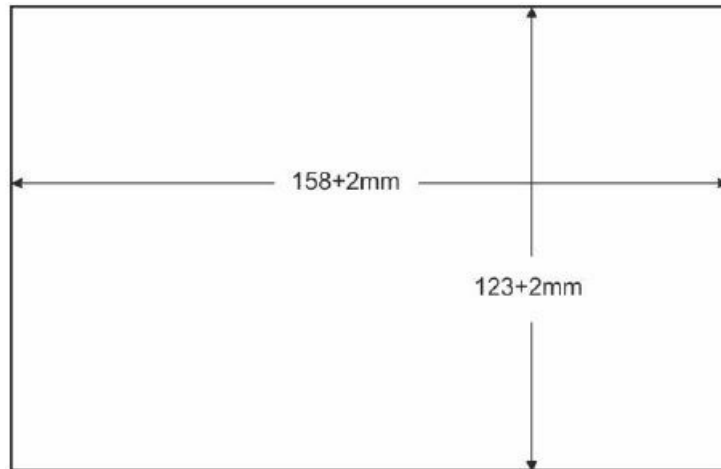

Figure 4: Cut out Dimensions
3. Following the inside edge of the template, cut a hole in the table surface with a sabre or keyhole saw according to the dimensions shown in Figure 4 (not to scale).